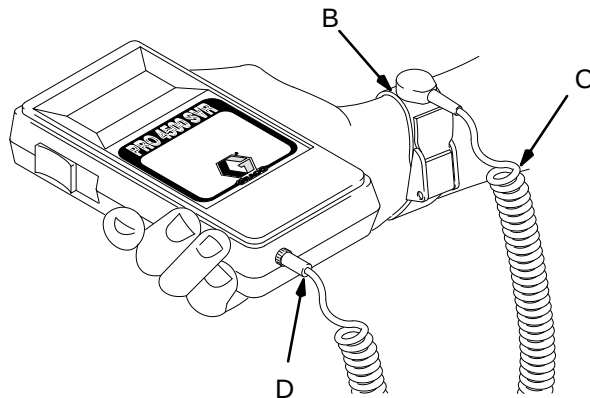

Fig. 2
SVR Ground Wrist Assembly 235–110 (See Fig. 2)
2. Fasten the wrist strap (B) securely to the operator's bare wrist; the wrist strap must have direct contact with the operator's skin.
3. Connect the cord (C) between the SVR and the SVR operator's wrist as shown in Fig. 2.